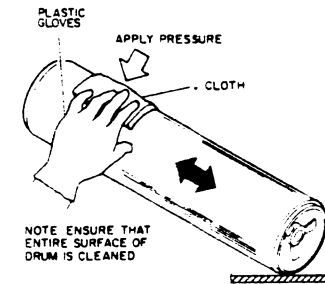

Figure 3. Removing the Polish 60-RAVN-151
3. CLEAN THE POLISH FROM DRUM USING THE J CLOTH (FIGURE 3).